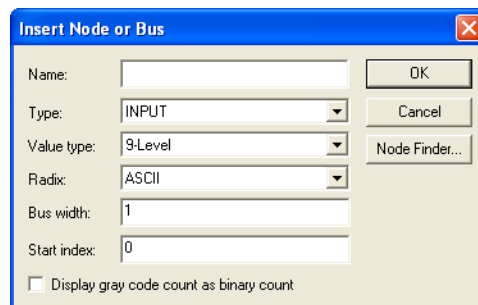
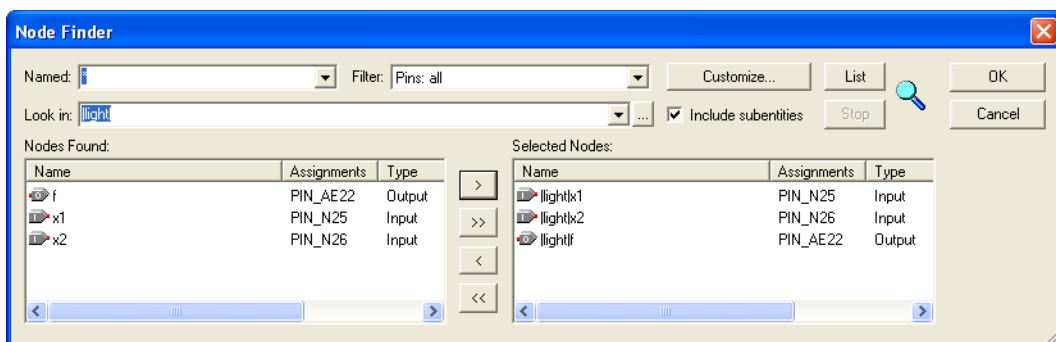
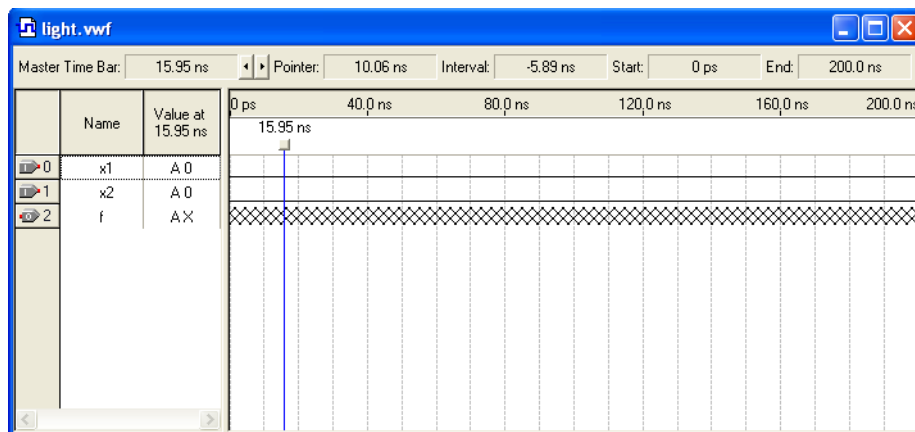

Figure 31. The Insert Node or Bus dialogue.
Figure 32. Selecting nodes to insert into the Waveform Editor.
Figure 33. The nodes needed for simulation.
- Next, we want to include the input and output nodes of the circuit to be simulated. Click **Edit > Insert > Insert Node or Bus** to open the window in Figure 31. It is possible to type the name of a signal (pin) into the Name box, but it is easier to click on the button labeled **Node Finder** to open the window in Figure 32. The Node Finder utility has a filter used to indicate what type of nodes are to be found. Since we are interested in input and output pins, set the filter to **Pins: all**. Click the **List** button to find the input and output nodes as indicated on the left side of the figure.
Click on the $x1$ signal in the Nodes Found box in Figure 32, and then click the $>$ sign to add it to the Selected Nodes box on the right side of the figure. Do the same for $x2$ and f . Click OK to close the Node Finder window, and then click OK in the window of Figure 31. This leaves a fully displayed Waveform Editor window, as shown in Figure 33. If you did not select the nodes in the same order as displayed in Figure 33, it is possible to rearrange them. To move a waveform up or down in the Waveform Editor window, click on the node name (in the Name column) and release the mouse button. The waveform is now highlighted to show the selection. Click again on the waveform and drag it up or down in the Waveform Editor.